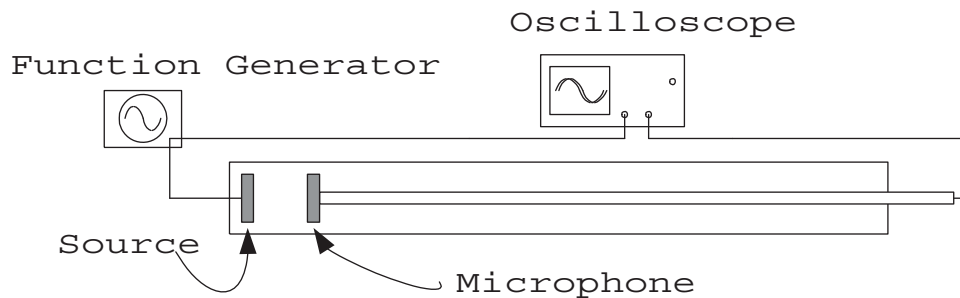

Figure 2.2: Apparatus for measuring the speed of sound.
1. Set up the apparatus as sketched in Fig.2.2. The function generator should be set to